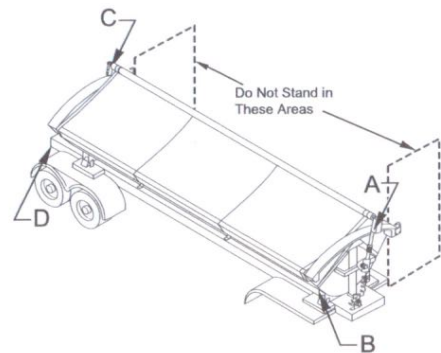

Figure 1
- 1) See Figure 1.** Attach one end of the come-along to the front swing-arm (A), near the motor housing. Attach the other end of the come-along to the trailer on the side the tarp is anchored (B).
- 2) See Figure 1.** Attach another come-along between the rear swing-arm (C) and trailer (D).